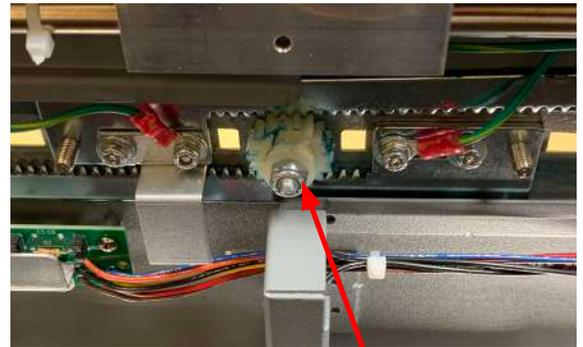

Fig. 66
4. Remove the 11/32" nut (Fig. 66) holding the self-centering gear and remove the gear.